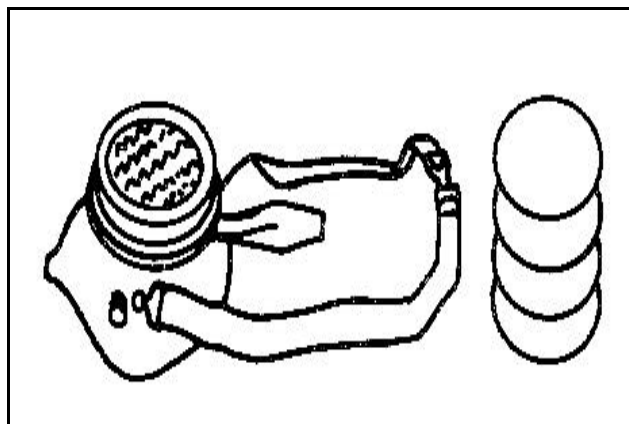

Figure 13-29. Filter Respirator
- The filter respirator (Figure 13-29, page 13-40) is equipped with filter pads. It can be used for spraying, grinding, or dust blowing when dust and fumes are not too severe. The cartridge respirator is designed for more severe conditions than those that can be met by a filter respirator. It uses a filter pad and a large purifying cartridge made of chemically treated charcoal.